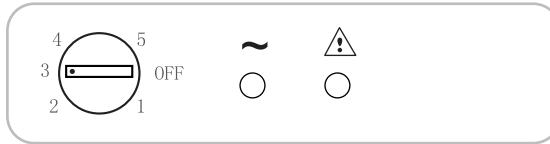

Fig. 3
- 1) Rotate the knob to the „0“ position (Fig. 3)